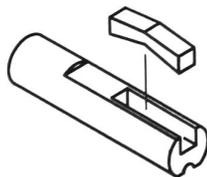

FIGURE 4
4. Place the original dial on the switch shaft using adaptors as needed. See figure 4 for assembly of spring clip onto adapter. Measure distance from back of dial to panel front and subtract 1/8 inch. This becomes your shaft measurement for use in step 5.